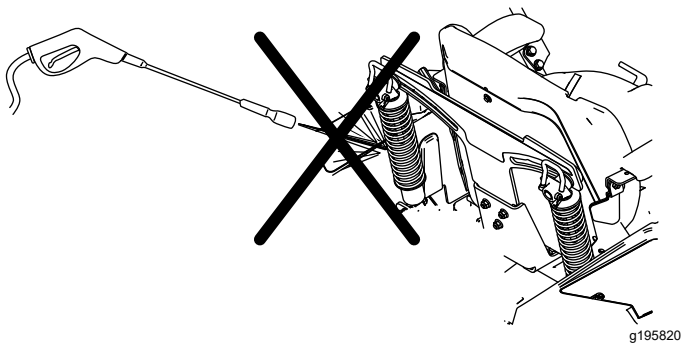

Figure 71
**Note:** Do not clean the shock assemblies with pressurized water (Figure 71).